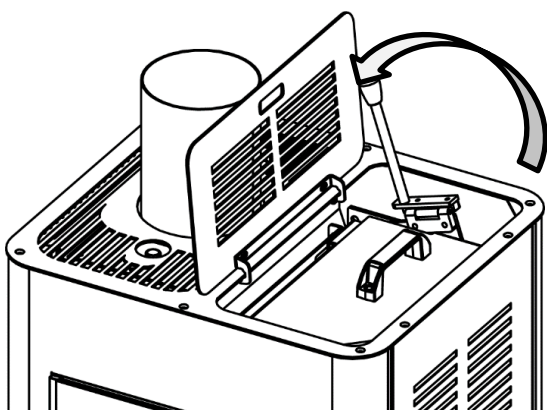

Fig. 15
- Open the lid and move the pellet loading lever to the “Stop” position (fig. 15);